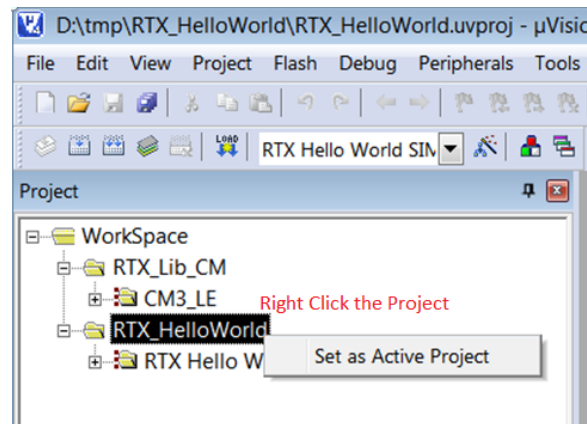

Figure 2.25: Keil IDE: Set an Active Project
1. Activate the RTX_HelloWorld project by highlighting the project name and right click. Then click the Set as Active Project (see Figure 2.25).